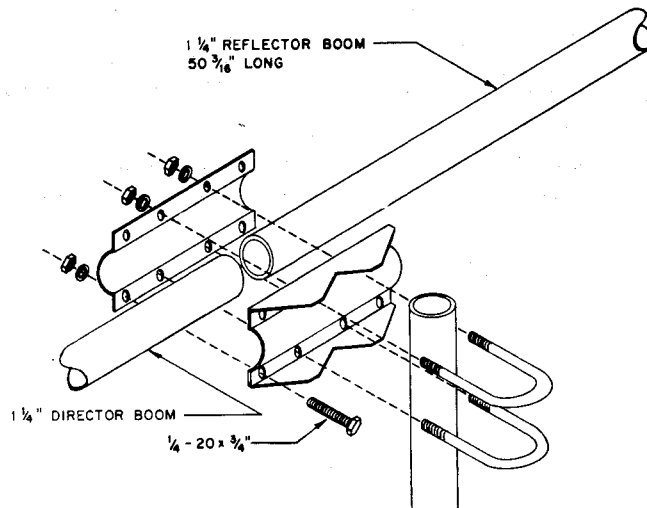

Figure 2. Boom-to-mast detail
**Boom-to-Mast Bracket Assembly** Select the boom-to-mast body and the boom-to-mast clamp and loosely assemble using four 1/4"-20 x 3/4" screws in the outside holes only. The inside holes will be used later for the U-bolts. Insert the boom tubes (ends not drilled) into boom-to-mast clamp. Holes in tubes must be horizontal. Now, tighten the four screws in the boom-to-mast bracket securely. See Figure 2.